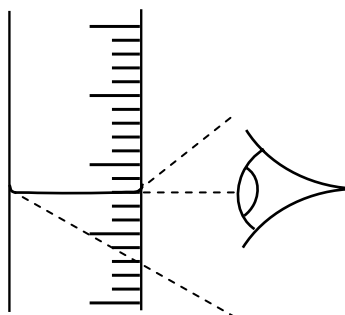

Figure 1.3
4. Now read the burette and record the reading in the middle row of a table like the one below. Be careful that your eye is level with the bottom of the meniscus or your reading will not be accurate (Fig. 1.3).